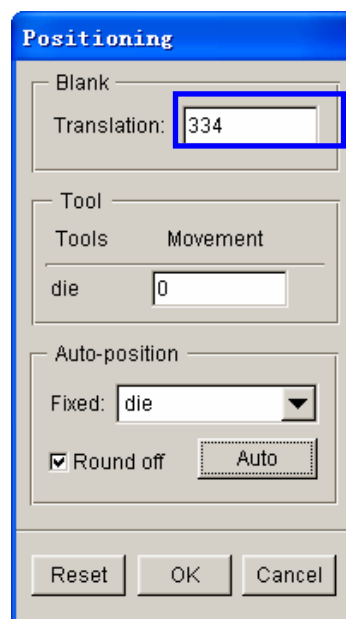

Figure 4.20 After tools auto positioning
3. Then, click the **Auto** button to position the tool and blank. The result is illustrated in Figure 4.20.